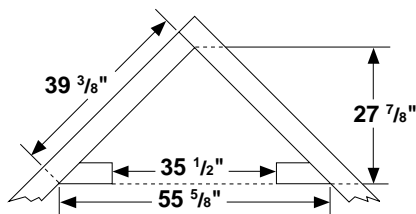

Figure 14 - Rough Opening for Installing in Corner
- If installing in a corner, use dimensions shown in Figure 14, page 10 for the rough opening. The height is 33" which is the same as the wall opening above.